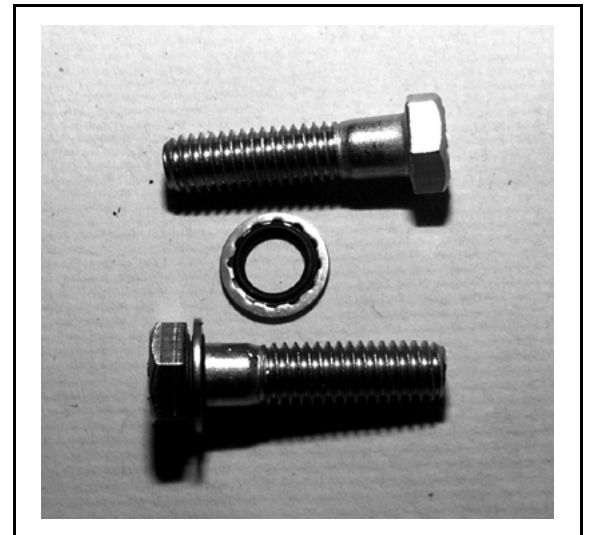

FIGURE 17 (MSSM0275AE)
5. Place an *o-ring equipped washer* under each bolt (FIGURE 17), apply Loctite 242 to each *seal holder bolt*, then install and torque to specifications. See "MSSM0101CE...FASTENER TORQUE REQUIREMENTS."